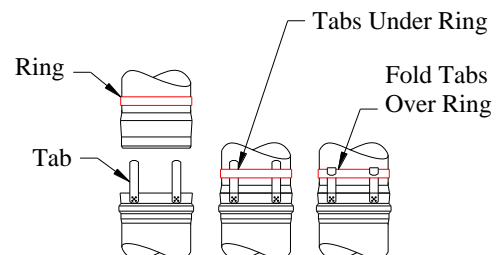

Fig 5A. (Ring and Tab Joint)
- 1. Connect parts using the Ring and Tab Connection Method. See Fig 5A.